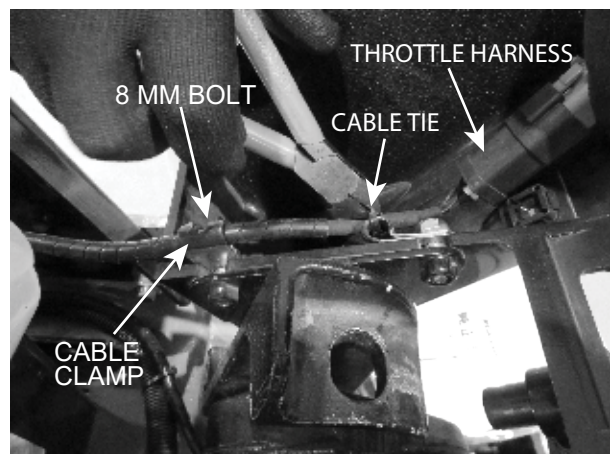
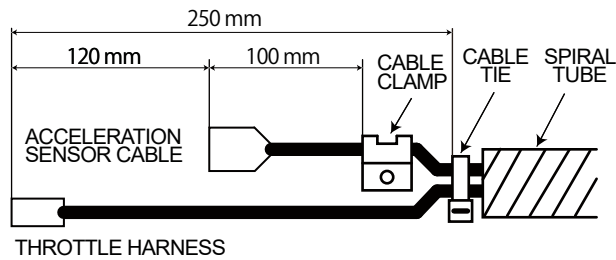

Figure 17. Throttle Harness Removal
Figure 18. Positioning of Cables
- Cut and discard the cable ties securing the throttle harness from the speed control knob on the handle. Then, remove the 8 mm bolt securing cable clamp and remove the cable clamp from the throttle harness. See Figure 17.
- Place the cable clamp that was removed earlier (Figure 17) to the acceleration sensor cable (P/N 467352040). Then, secure the acceleration cable and the throttle harness with cable tie and wrap the new spiral tube (P/N 959021812) around them. See Figure 18 for positioning.